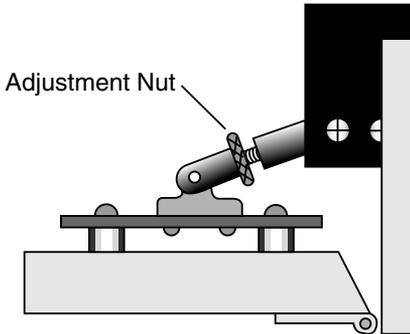

Figure 2-6. Turn the adjustment nut clockwise to remove.
- a. Unlatch the handle, and unscrew the knurled leaf chamber adjustment nut (turn clockwise) until it is free of the handle (Figure 2-6).